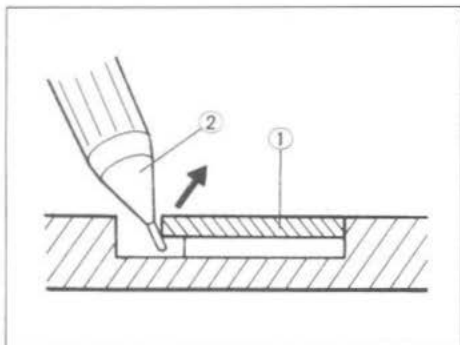

Fig. 8
(3) To remove an optical element index plate ①, use the tip of a mechanical pencil ② or other sharp-tipped tool. (Fig. 8)